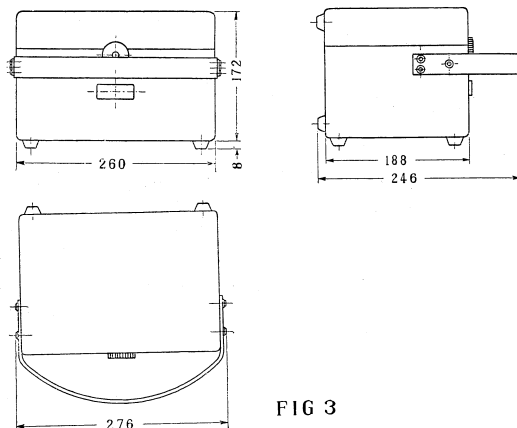

FIG 3
- 7) Weight of the instrument: 3.9 Kg. Dimensions: as in Fig. 3.